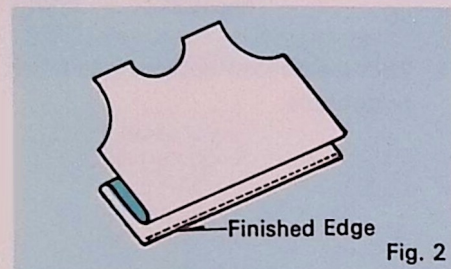

Fig. 2
2. Fold garment away from hem leaving 1/8" of hem edge extending. (Fig. 2)